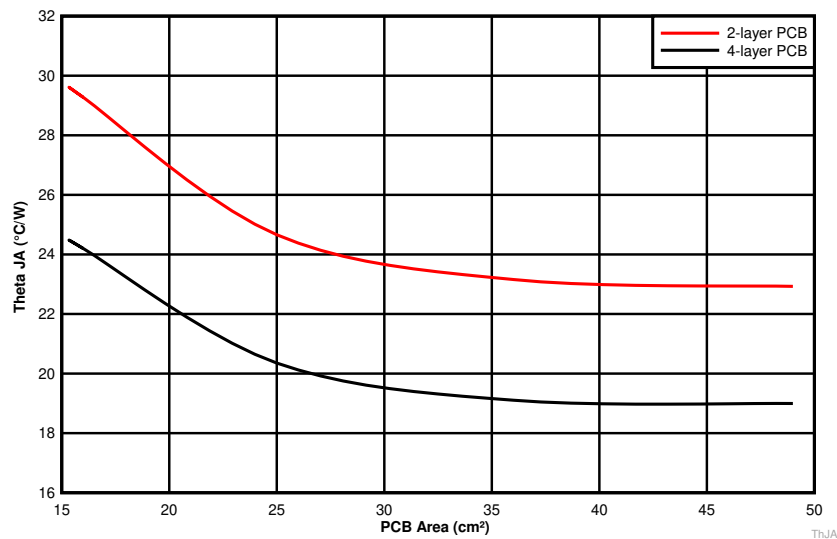

图 9-5. θ_{JA} vs PCB Area
The amount of PCB copper effects the thermal performance of the device. 图 9-5 shows the effects of copper area on the junction-to-ambient thermal resistance ($R_{\theta JA}$) of the LMZM33602. The junction-to-ambient thermal resistance is plotted for a 2-layer PCB and a 4-layer PCB with PCB area from 16 cm² to 49 cm².
3. Reference 图 9-5 to determine the minimum required PCB area for the application conditions.